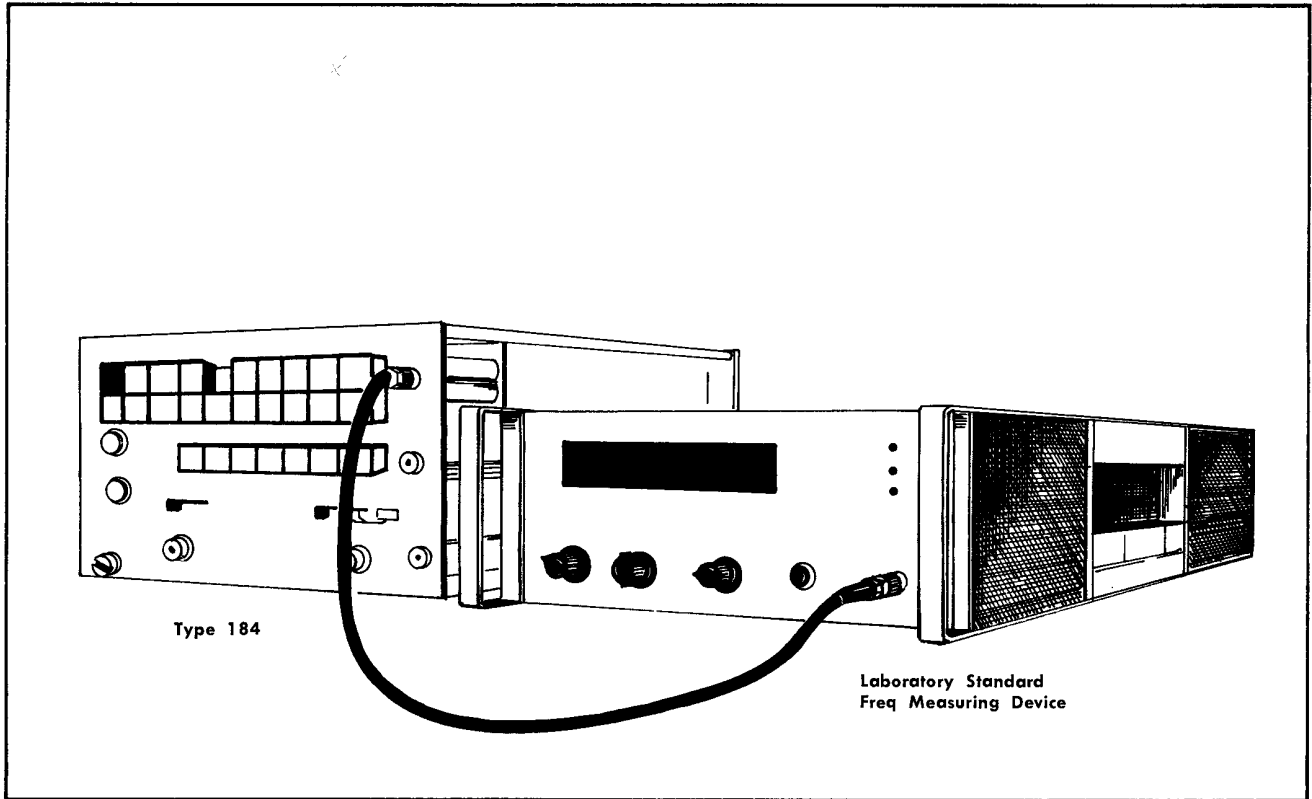

Fig. 6-10a. Suggested setup for adjusting crystal oscillator to laboratory standard. Step 5.
a. Test equipment setup is shown in Fig. 6-10a.